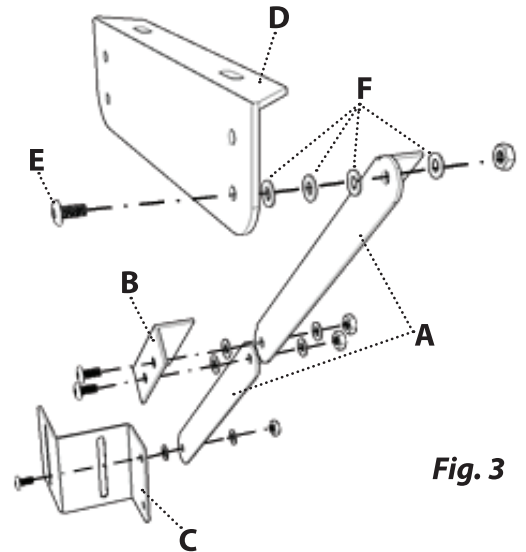

Fig. 3
Step 4. Install the pivot bracket assembly between the Z-brackets and table brackets. (See fig. 3)